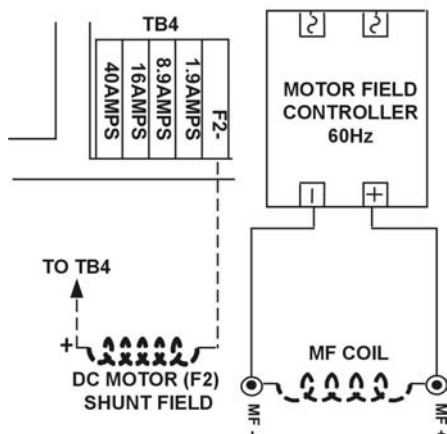

Figure 1-9
- The third circuit is to bring power to the Motor Fields (if a DC motor is used). These 2 wires can be run with the motor wires. [See Figure 1-9.]